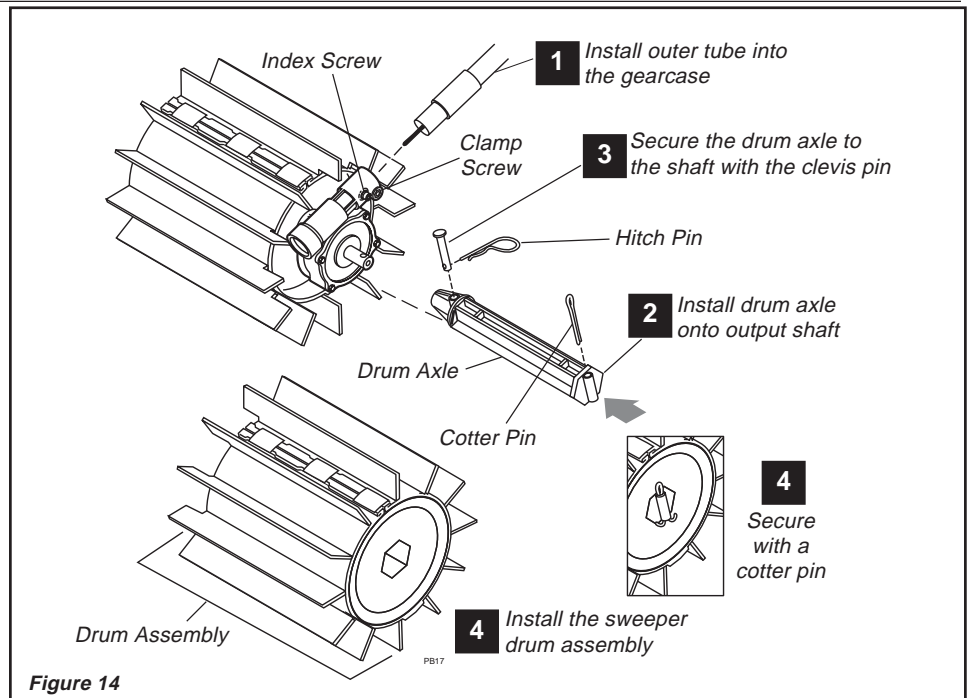

Figure 14
1. Insert the end of the outer tube into the gearcase and push until it bottoms. The outer tube should go into the gearcase about 1-1/2 in. (38 mm). If the outer tube stops before bottoming, rotate it until you feel the inner mainshaft (driveshaft) splines engage the gearcase. Then push the outer tube all the way in. See Figure 14.